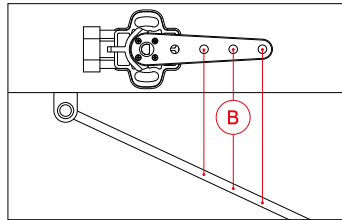

Fig. 24: Attachment point link rod
2. Reconnect the air line and apply as much air pressure to the air spring until the suspension is at its upper limit. Now measure the distance [B] from the sensor arm to the chosen attachment point of the link rod again (Fig. 24). The difference between the two measurements gives the maximum travel distance [C].